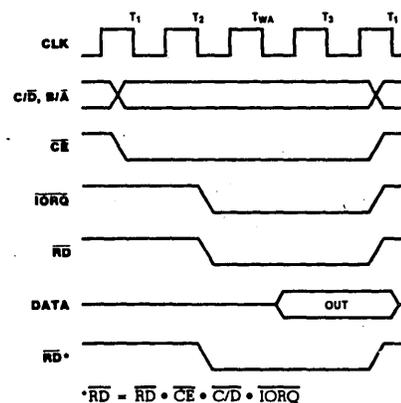

Figure 13. Read Cycle Timing
**Read Cycle.** Figure 13 illustrates the timing for reading the data input from an external device to one of the Z-80 PIO ports. No Wait states are allowed for reading the PIO other than the automatically inserted  $T_{WA}$ .